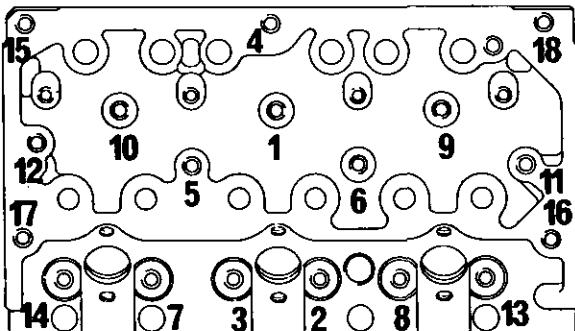

Fig. C.14
15. Remove the cylinder head nuts/setscrews in the reverse order to the tightening sequence in Fig. C.14.
Tighten the cylinder head nuts/setscrews progressively in the order given in Fig. C.14 to the torque given on Page A.2.
With coolant outlet temperature at least 170°F (77°C), tighten nuts and setscrews in the order given in Fig. C.14 to torque given on Page A.2. If a nut or setscrew does not move before correct torque is achieved, slacken off 1/12 to 1/6 of a turn and then retighten to correct figure. After retightening all the nuts and setscrews, the first 10 positions of the tightening sequence should be rechecked without further slackening off to ascertain that they are still tightened to the correct torque.